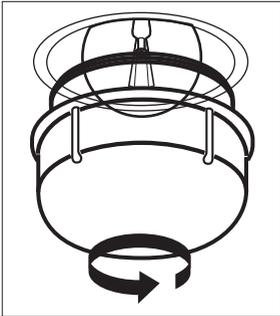

Figure 123
2. Remove the glass protection by turning it counterclockwise. (See Fig. 123) Using plastic gloves may help you if you have difficulty in rotating it.